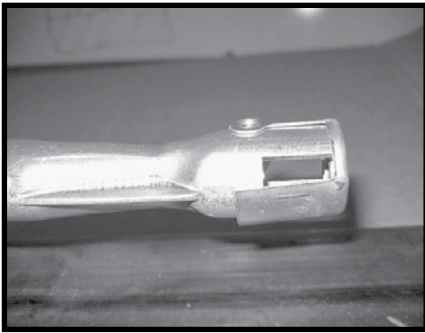

Figure 11: Adjusting air shutter for propane gas.
NOTE: check air shutter for correct fuel setting before proceeding further. Both burner shutters are to be set the same, fully closed for natural gas. 1/8" open for LP. See Figure 11 for adjustment.
5. Loosen the primary air shutter screw, open shutter to give a gap of 1/8" (0.125") and re-tighten. Repeat on other burner (Figure 11). Shutters are fully closed for natural gas and are 1/8" open for propane gas.